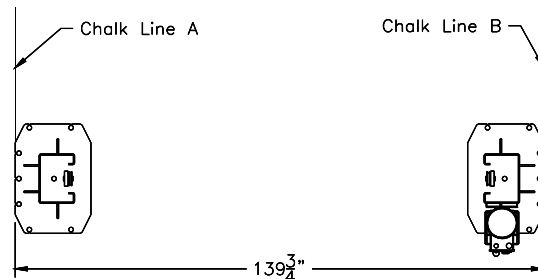

Fig 1 – Column Layout
See Figure 1	Q12
- 3) Using the Overall Width (C) Dimension from **Fig 1**, chalk two parallel lines on the floor within 1/8" tolerance. Erect both column assemblies. Align the base plate edges to the chalk lines.
- 6) Recheck "Inside of Columns" dimension, **Fig 1**. Drill the anchor holes using the base plate as a template. Drill through the floor if possible or to a depth of 5 inches minimum.